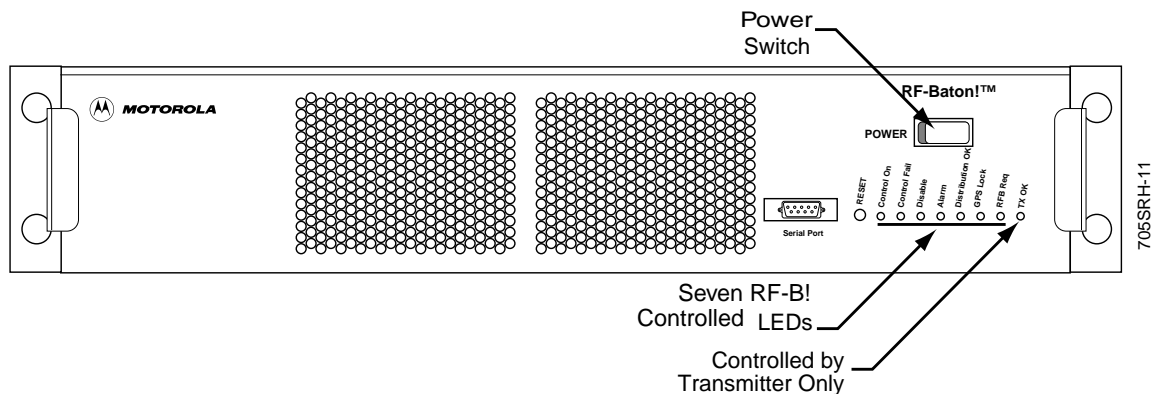

Figure 4-5: RF-B! Transmitter Controller (Front View)
- All seven RF-B! transmitter controller LEDs light briefly during power up (see Figure 4-5).